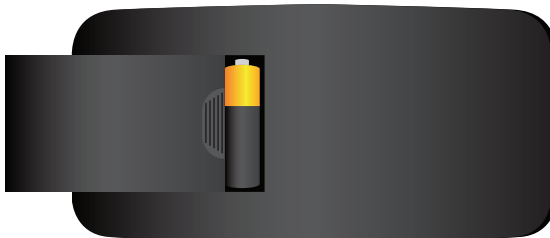

Figure 3. Removing Battery Cover
3. Slide the battery compartment lid back from the rear compartment (see figure 3) to remove the old batteries and replace with new ones. Care should be taken to orient the new batteries according to the imprinted alignment images in the compartment. Use 4 standard Alkaline AA batteries.